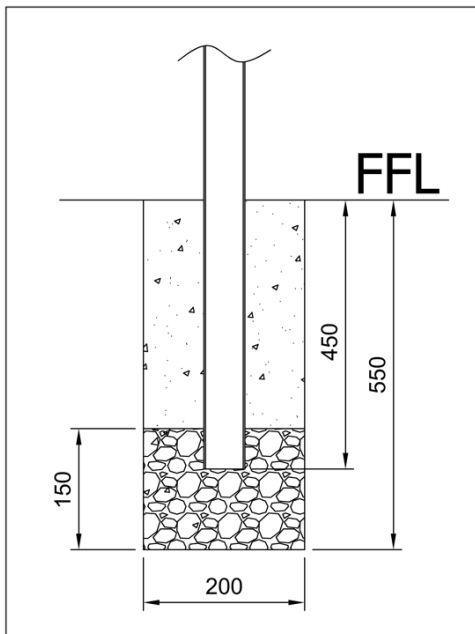

Fig 1. In-ground GMK.
1. Dig two holes 200 x 200 x 550mm deep at the centres required. (Fig 1). Refer to the instructions supplied with your fold down clothesline to confirm installation centres.
2. Add 100mm drainage aggregate and set the GMK posts in the holes. (Fig 1).
3. Add an additional 50mm drainage aggregate up the sides of the posts and fill the remainder of the hole with concrete. (Fig 1).